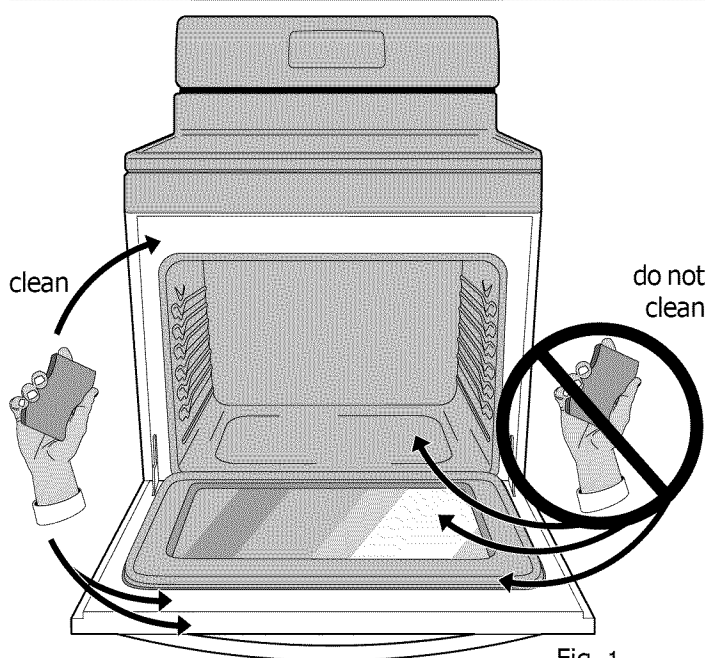

Fig. 1
- Clean any soil from the outer oven frame, the door liner outside the oven door gasket and the small area at the front center of the oven bottom. Clean using soap and water before starting self-clean. These areas (See Fig. 1) heat sufficiently to burn soil on.
- **Do not clean the oven door gasket** (See Fig. 1). Do not use any cleaning materials on the oven door gasket. Doing so could cause damage to the door gasket. The woven material of the oven door gasket is essential for a good seal. Care should be taken not to rub, damage or remove the gasket.